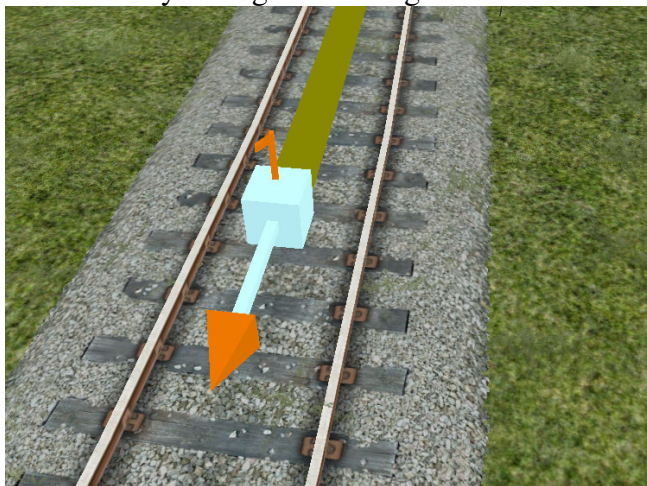
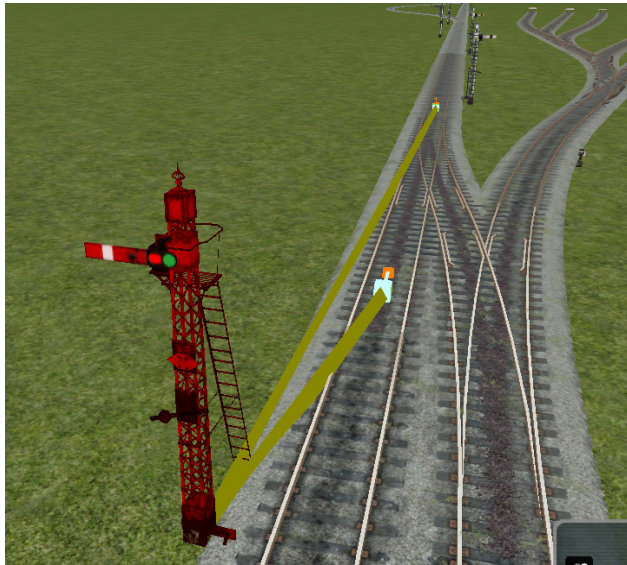

Figure 2 Route, Reset or Sequential Marker No.1
Figure 3 Typical set-up for signal "sig_h 1T"
A signal may have one or more of these type of markers (See Fig.2), see Appendix A. It would appear to be used by the signal to determine if a relevant route is set. The signal seems look at the lay of the points between the “Initial Marker” and the “Route Marker”. It would also appear to look for conflicting set routes crossing the path. It does not detect reverse routes if the lay of the points is the same. The signal would also appear to look to the next signal beyond the “Route Marker” for its authority to display a clear indication. Except where the marker is of the “Reset” type. Only the first six “Route Markers” display their number. Seven onwards do not display their numbers above them.
Signal “sig_h 1T” is similar to the previous one but can be used where there is one route in advance of the signal that has some point work which requires route detection (e.g a passing loop starting signal. This signal is installed similarly to the previous one, but once the first marker has been positioned you will be presented with a further one (“Route Marker”) which looks similar, but has a figure one (1) above it (see Fig.2). Position this marker on the far side of the point work that requires to be monitored by the signal. See Fig.3.